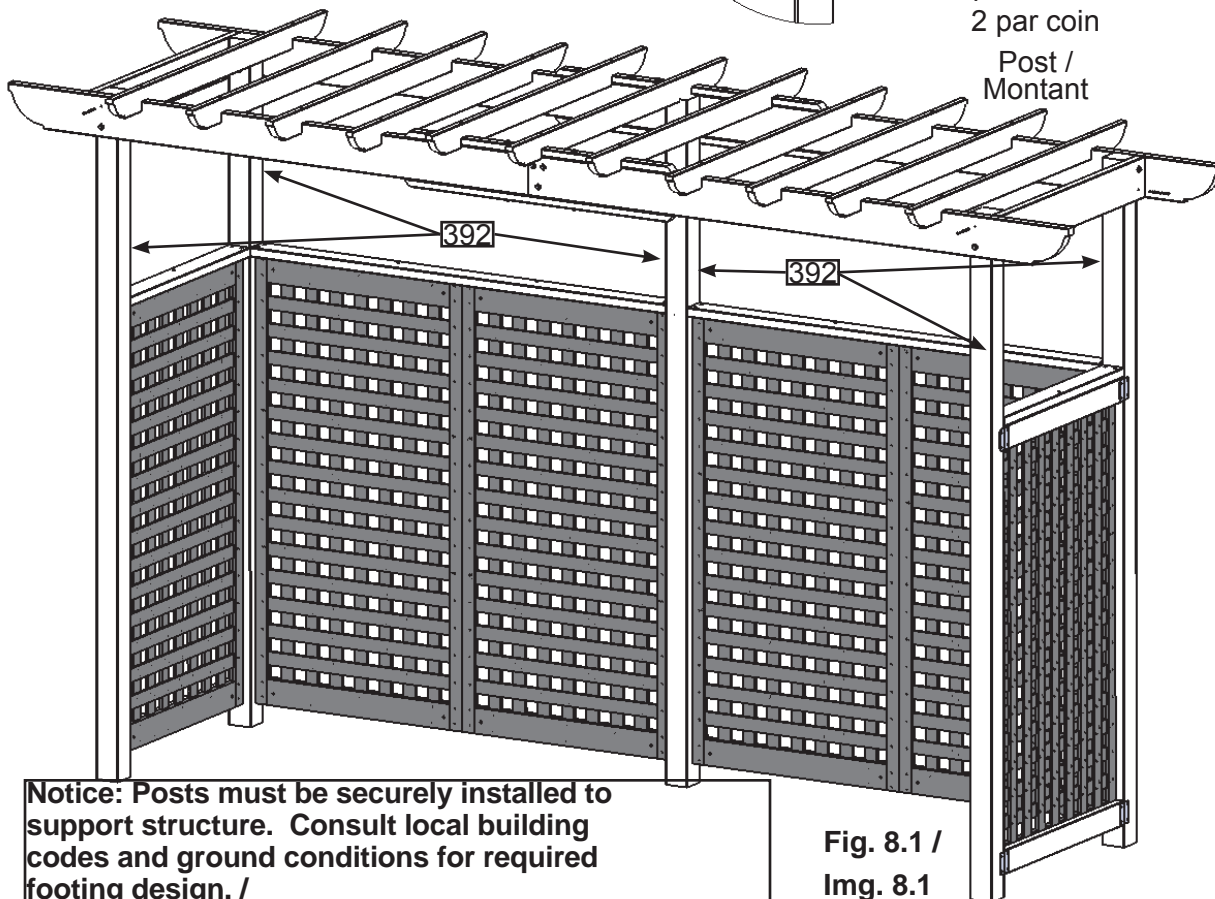

Fig. 8.1 /
- A: Square unit and attach remaining (S4) screws into (392) Posts as shown in fig. 8.1 & 8.2.